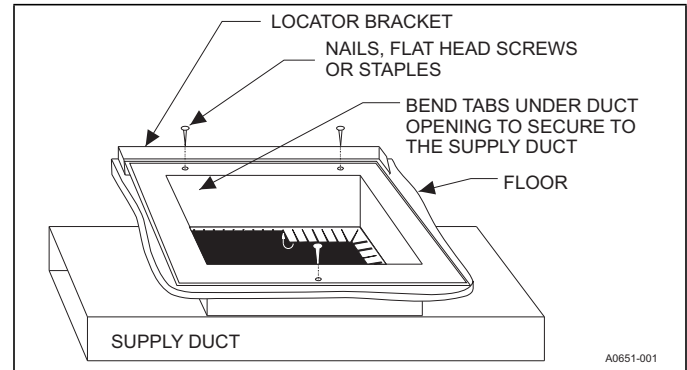

Figure 10: Duct connector tab attachment
3. Place the locating bracket which is supplied with the duct connector to the rear of the floor area for the furnace. See Figure 10.